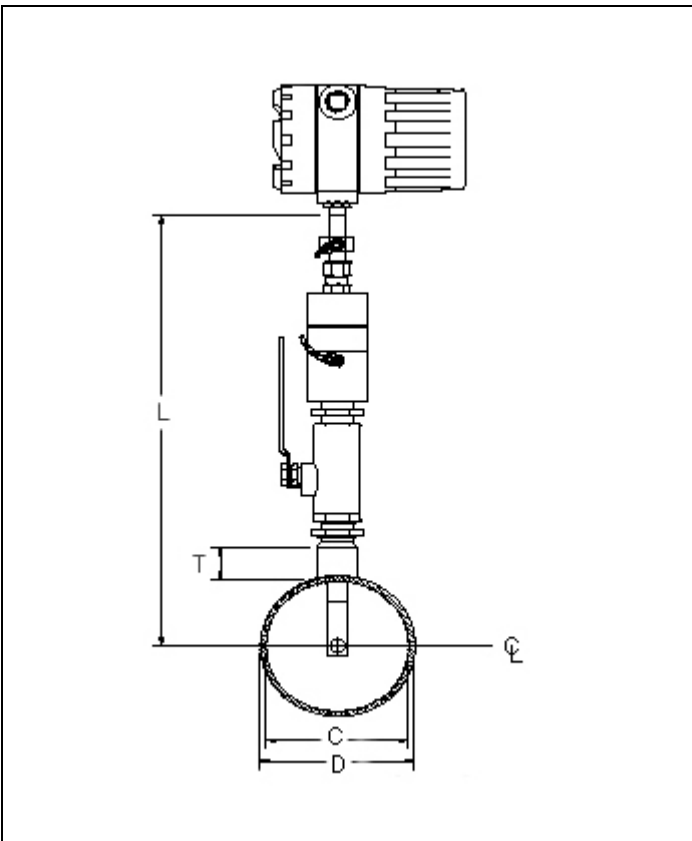
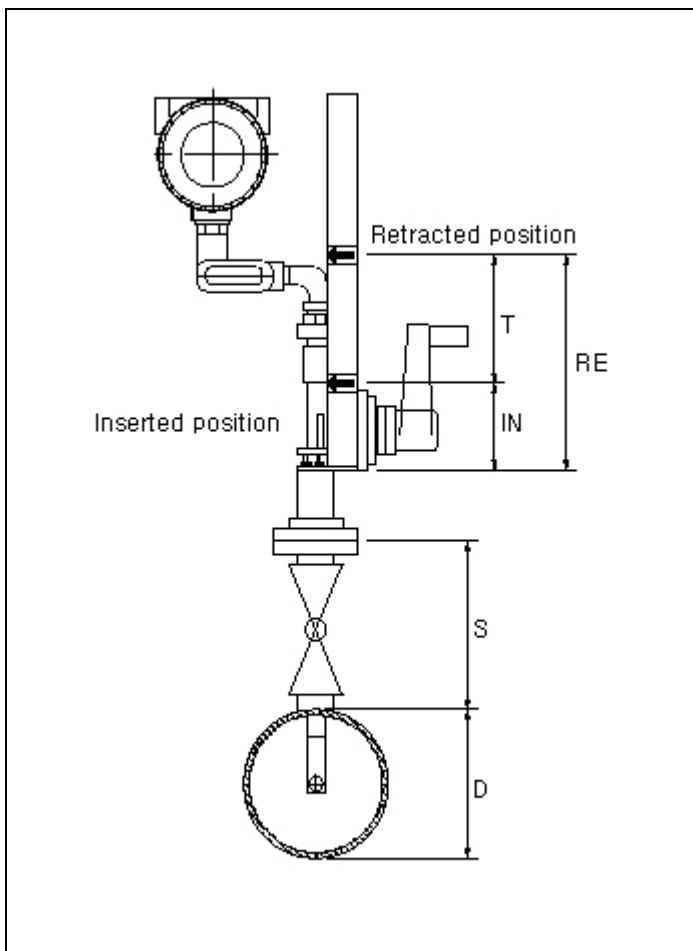

Figure 2-2. Low Pressure Hot Tap Insertion Depth
Figure 2-3. High Pressure Hot Tap Insertion Depth
2. Calculate the flow meter insertion depth as shown in Figure 2-2 for a low pressure tap or Figure 2-3 for a high pressure tap.